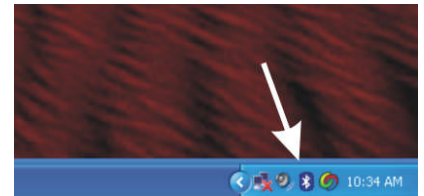

Figure 3
- iii. Upon successful installation of the Bluetooth software, a blue icon will be visible in the bottom right corner of the Windows XP task bar (**Figure 3**).